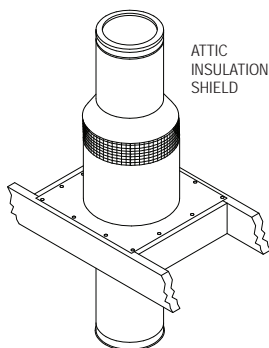

Figure 10
9. Install Attic Insulation Shield: Install the Attic Insulation Shield where the chimney passes into an attic. It's purpose is to prevent debris and building insulation from getting too close to the chimney (*Fig 10*). An installed Attic Insulation Shield is 15 inches high. In attic areas where this shield cannot fit, you must enclose the attic portion of the chimney in a framed enclosure. If the chimney is fully enclosed through the attic, an Attic Insulation Shield is not required. Where the chimney passes into the attic, install the Attic Insulation Shield as follows:
- d. Secure the Attic Insulation Shield to the top of the framed opening using at least (3) 8-penny nails or (3) #8, 1-1/2" wood screws per side (*Fig 10*).